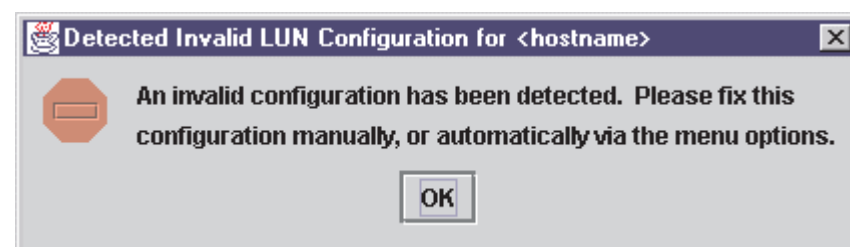

Figure 97. Detected Invalid LUN Configuration Error dialog window
- If FASTT MSJ detects an erroneous LUN configuration, the message shown in Figure 97 is displayed. Click **OK** to continue.